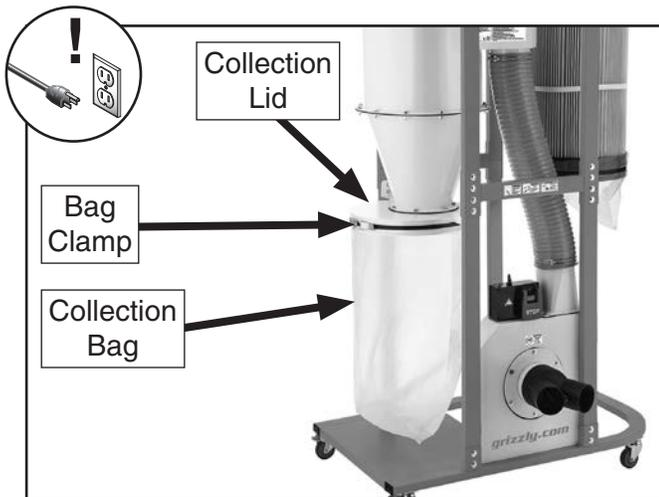

Figure 62. Collection bag components.
2. Release bag clamp on collection lid (see **Figure 62**).